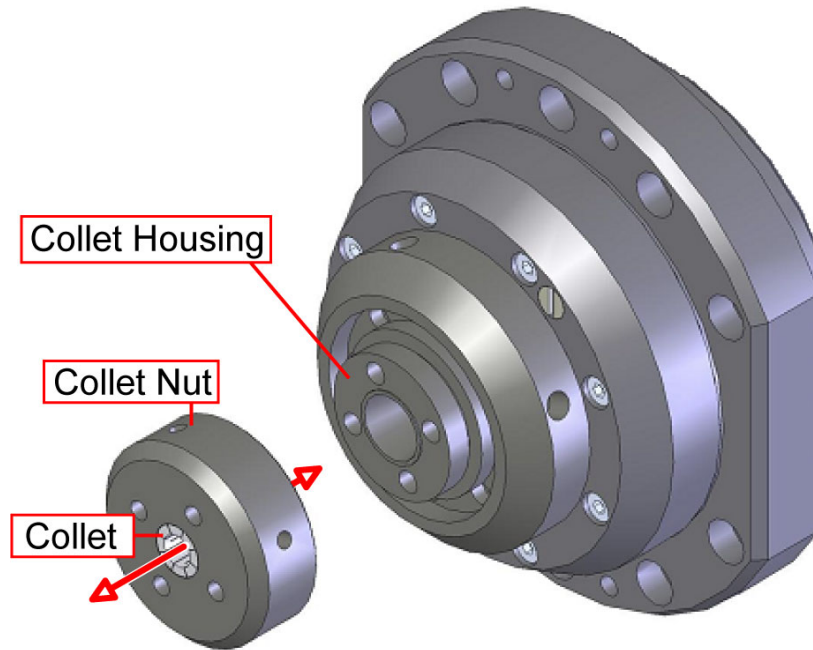

Figure 2-3: Installation Procedure for Collet/Collet Nut
- Step 6: Guide the collet using the nut into the stage (Figure 2-3) making sure that the collet seats properly in its taper. Be sure that air pressure is still being supplied to the stage so the collet chuck is in the open position.